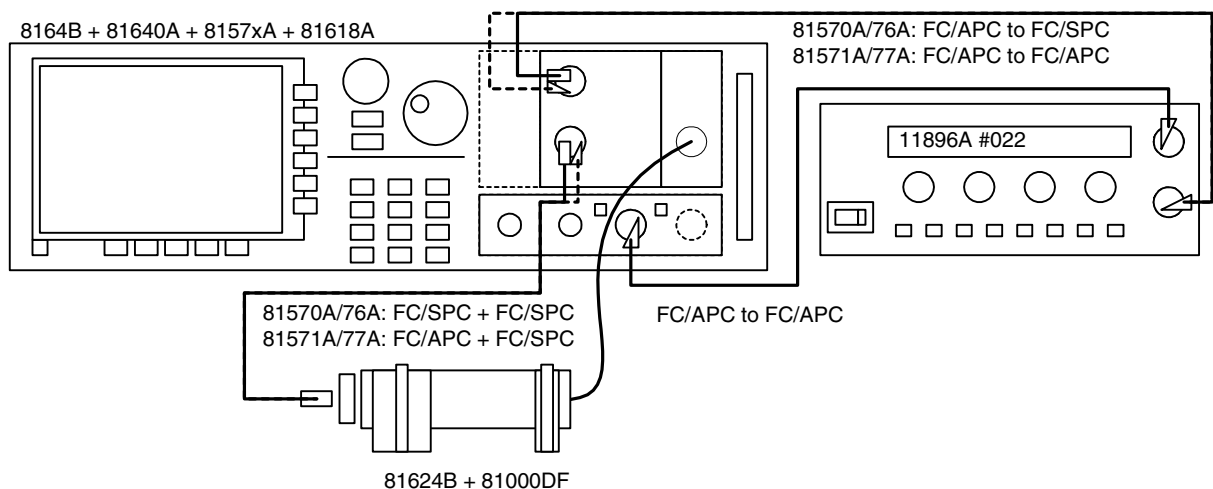

Figure 16 Attenuation Flatness Test Setup - 8157xA VOAs
- 3 For the SMF Attenuators, connect the equipment as shown below in Figure 16.